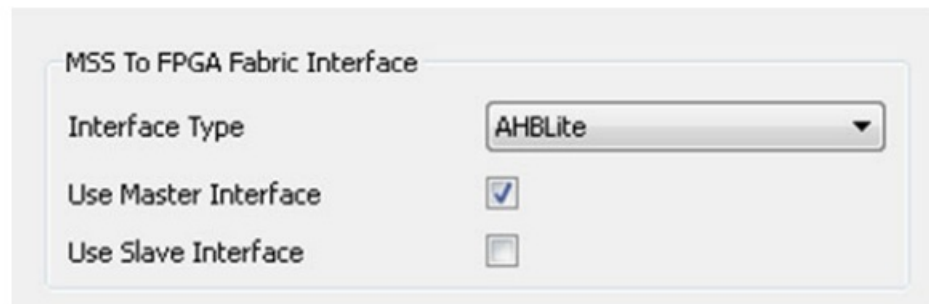

Figure 1-1 • MSS to FPGA Fabric Interface Core
- **Interface Type** – Use this option to select between the AMBA APB3 (AHB to APB bridge) and AHBLite modes (as shown in Figure 1-1).